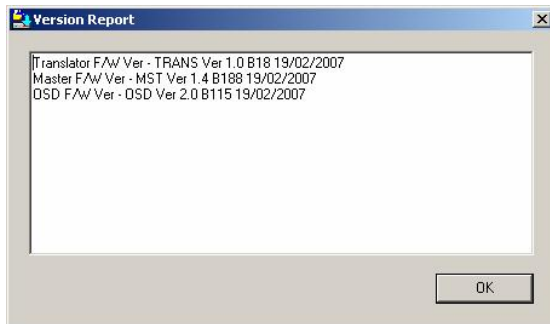

Figure 46 Firmware version report
2. Click **F/W Version**. The firmware versions of the Translator, Master and OSD appear, see Figure 46.